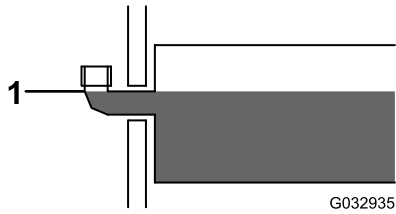

Figure 34
3. Remove the fill cap from the hydraulic reservoir (Figure 34).
4. Slowly fill the reservoir with BOSS high-performance hydraulic fluid to the bottom of the fill elbow (Figure 34).